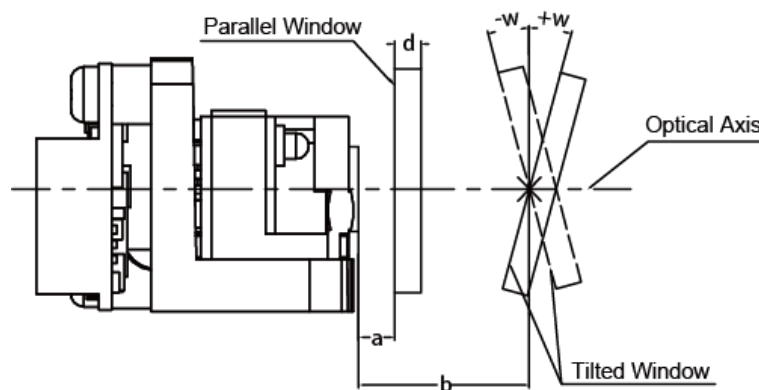

Figure 2-12
- **Parallel window** – Primary option for imager engines. The following window distance requirements should be satisfied: The maximum distance is measured from the front of the engine housing to the furthest surface of the window. In order to reach better reading performance, the distance from the front of the engine housing to the nearest surface of the window should not exceed **a** ($a=1\text{mm}$) and the distance from the front of the engine housing to the furthest surface of the window should not exceed **a+d** ($a=1\text{mm}$, $d=2\text{mm}$), as shown in **Figure 2-12**.